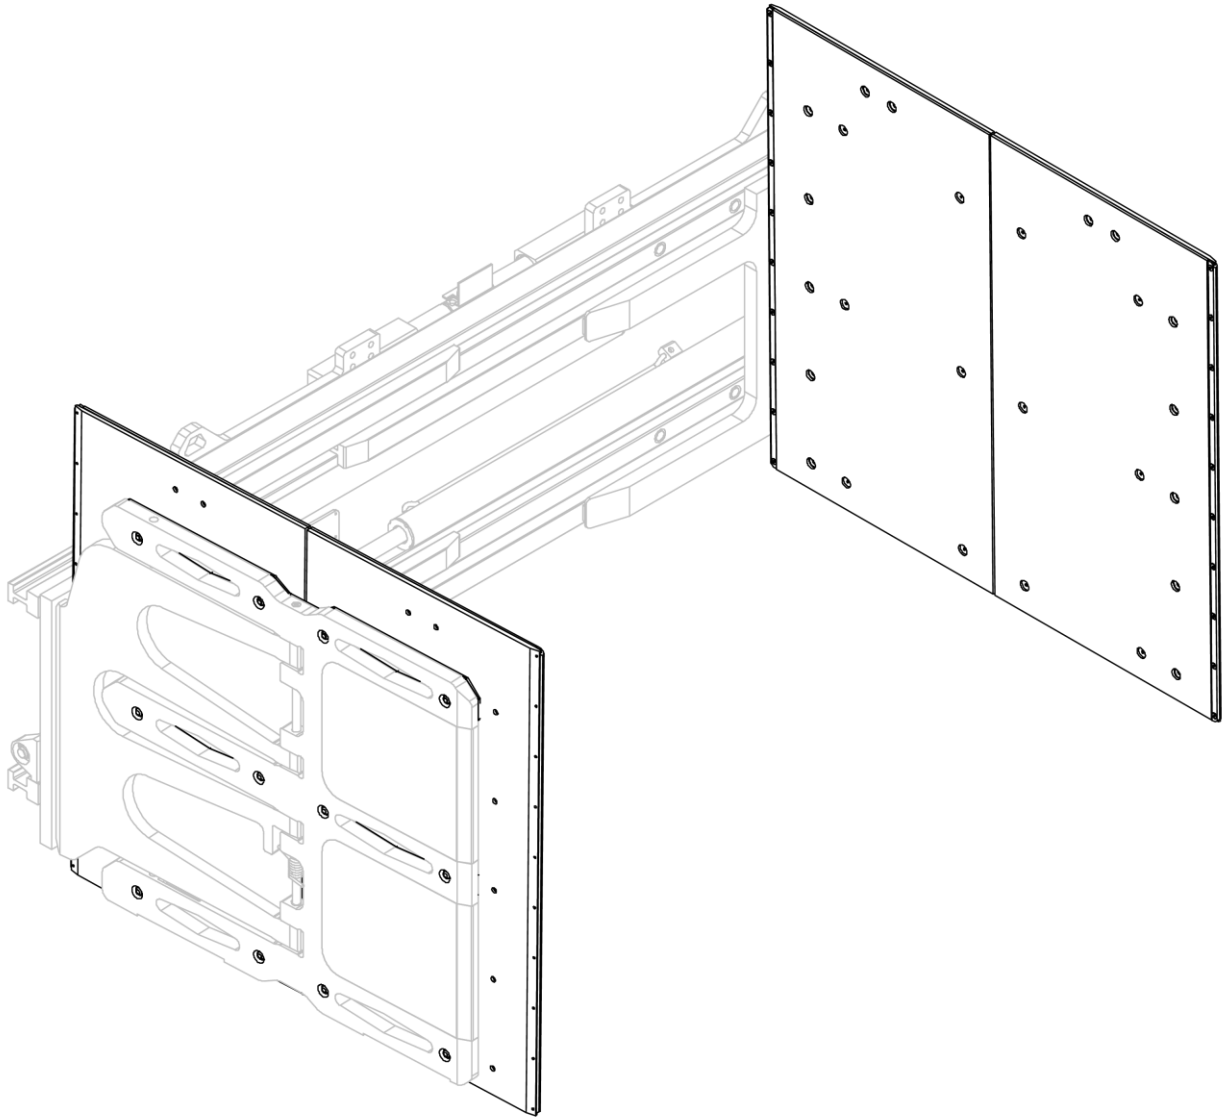

Figure 29
3. Check that the panels and shims are properly secured (see *Figure 29*).